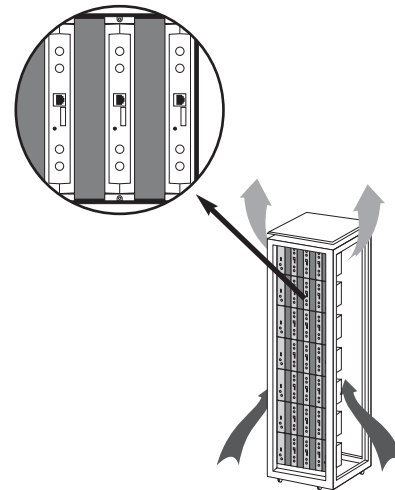

fig. 41
When the rack is located in an area where the temperature is approximately 40°C, it is advisable to install it in such a way that it is left totally open, in other words, without adding the side doors thus facilitating the ventilation of the units with the option of placing the blank plates ref. 5073, fig. 41.